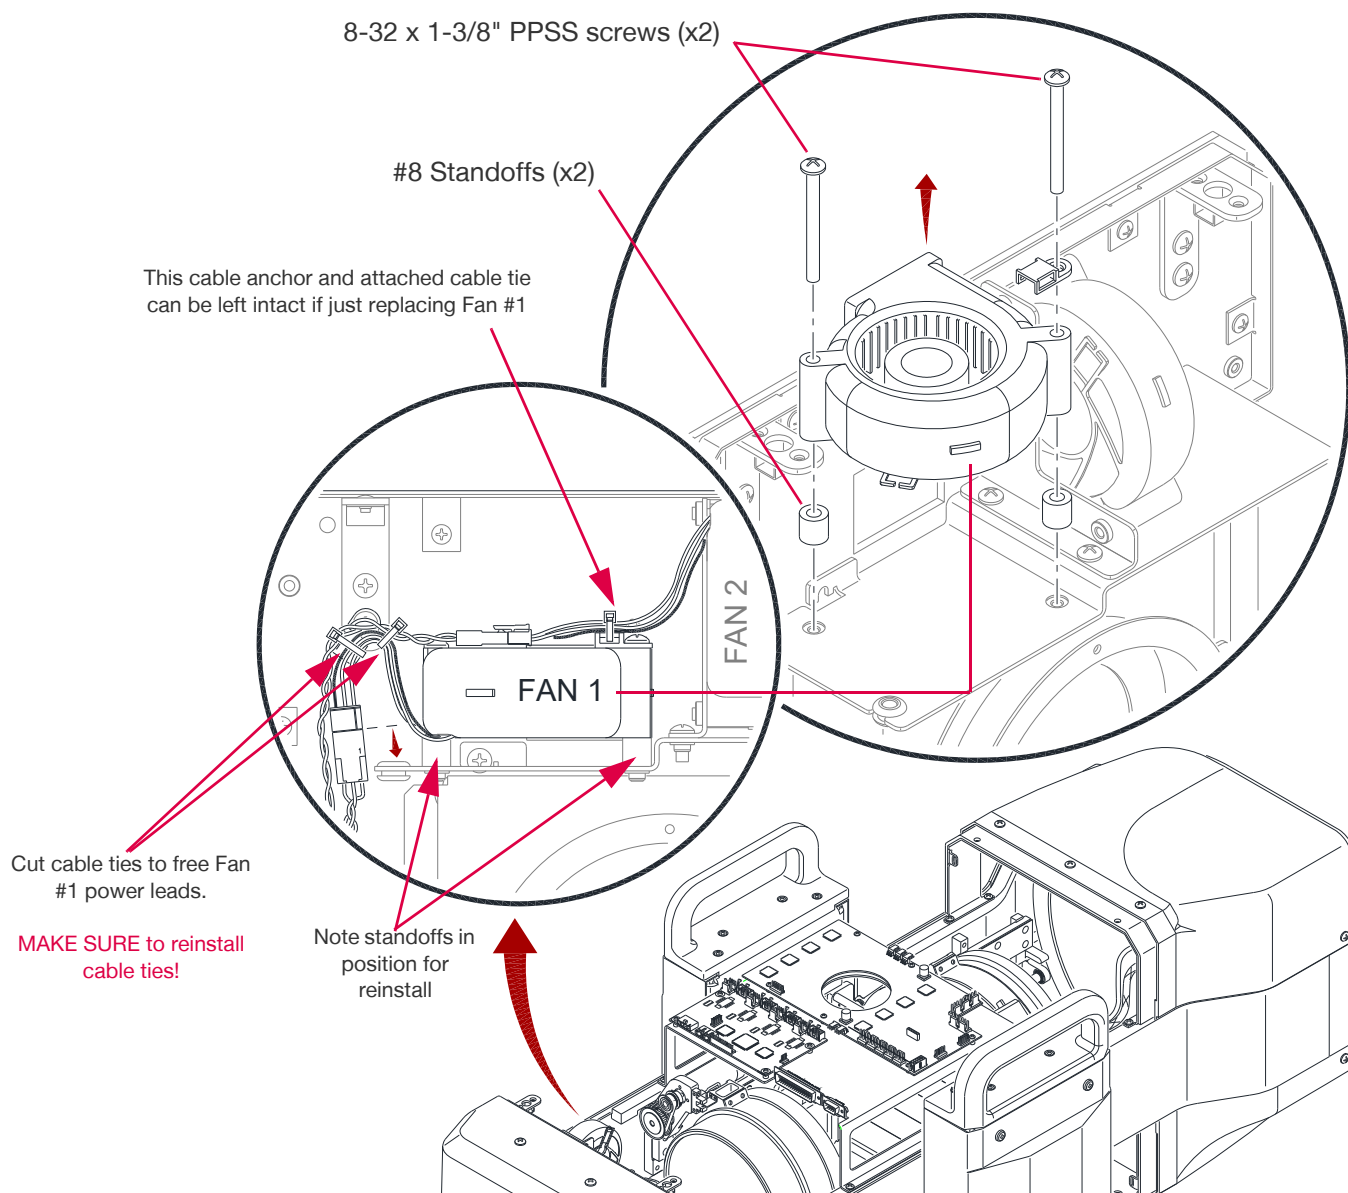

Figure 3-36: Replacing AFT Bulkhead Fan #1
- Step 4. Cut cable tie securing power leads from Aft Fan #1 (**Figure 3-36**); unplug the #1 fan
- Step 5. Remove two (2) 8-32 x 1-3/8" PPSS screws securing the #1 Fan. Retain the two #8 standoffs and one cable anchor for re-installation. Note position of standoffs and cable anchor. (**Figure 3-36**)